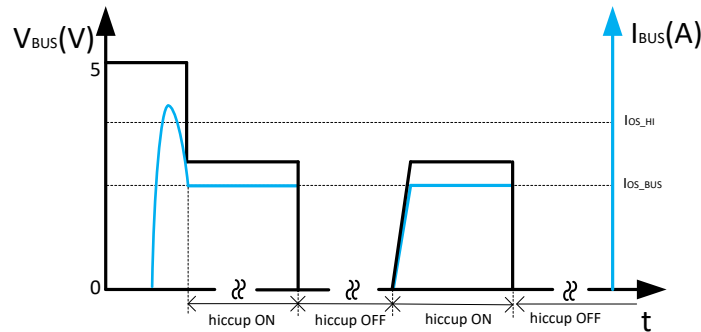

图 10-7. BUS Overcurrent Protection: Two-Level Current Limit
- The third condition is the load current increases just over the I_{OS_HI} setting. In this case, the load current does not trigger the fast turnoff. The USB power switch current limit threshold is set back to the primary current limit, I_{OS_BUS} , immediately. If the load still demands a current greater than I_{OS_BUS} , the USB output voltage decreases to $I_{OS_BUS} \times R_{LOAD}$ for a resistive load, which is shown in Figure 10-7. If the overcurrent limit condition lasts longer than 4.1 ms, the corresponding USB channel enters hiccup mode with 524 ms of off-time and 4.1 ms of on-time. Another USB channel still works normally.